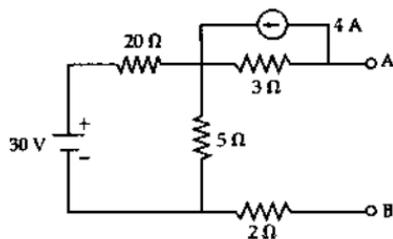

Fig. 3.0
- (c) Find Thevenin's equivalent circuit across A B Shown in Fig. 3.0